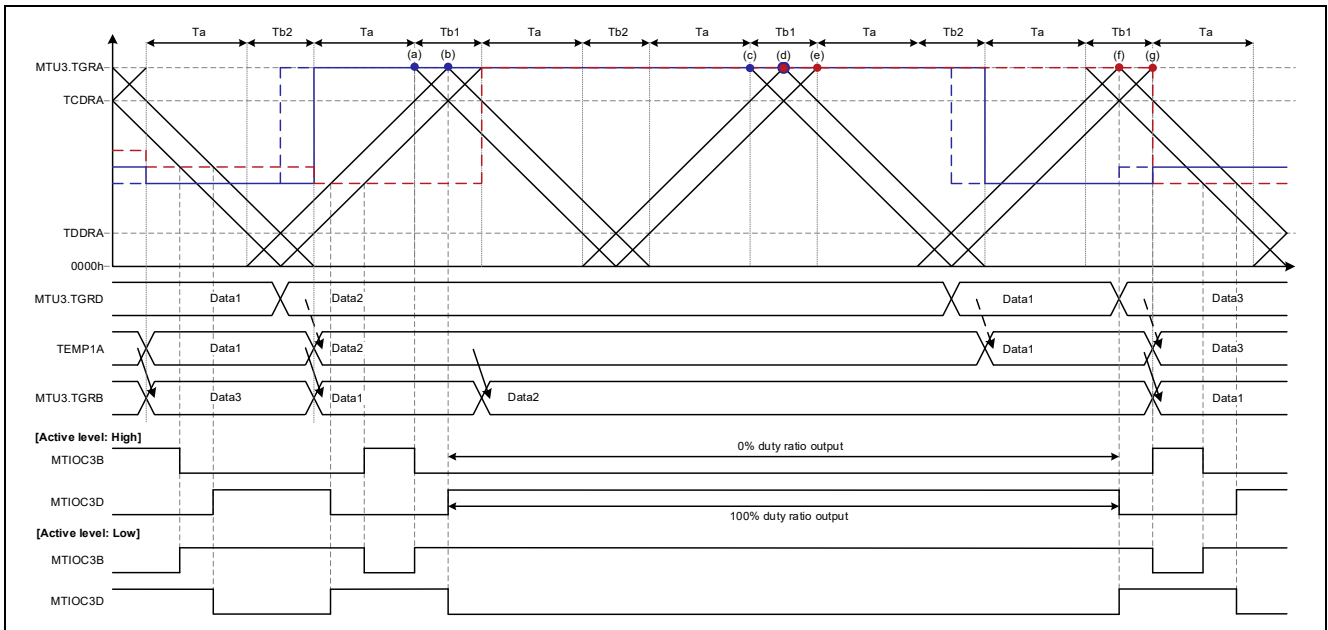

**Figure 1.8 Complementary PWM Mode 3 Operation Example
- [Operation example 6] Figure 1.8, Complementary PWM Mode 3, Output Start: Trough, Ta Interval Overwrite
Figure 1.8 shows an operation example of buffer overwrite in the Ta interval in complementary PWM mode 3. Except for the difference in the buffer overwrite timing, the operation is the same as that shown in Figure 1.7.